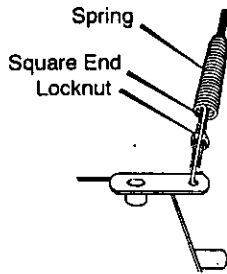

Figure 25
3. Pull spring cover up to expose **spring**. Push the cable through the **spring** to expose the threaded portion of the cable. See Figure 25.